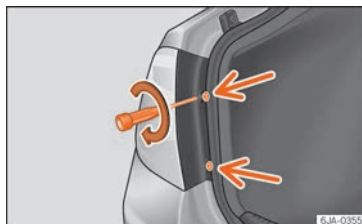

Fig. 103 Fit the tail light unit.
- Take the screwdriver or a Torx 20 key (T20) from the vehicle tool kit and tighten (turning clockwise »» Fig. 103) the two retaining screws that secure the front of the light.